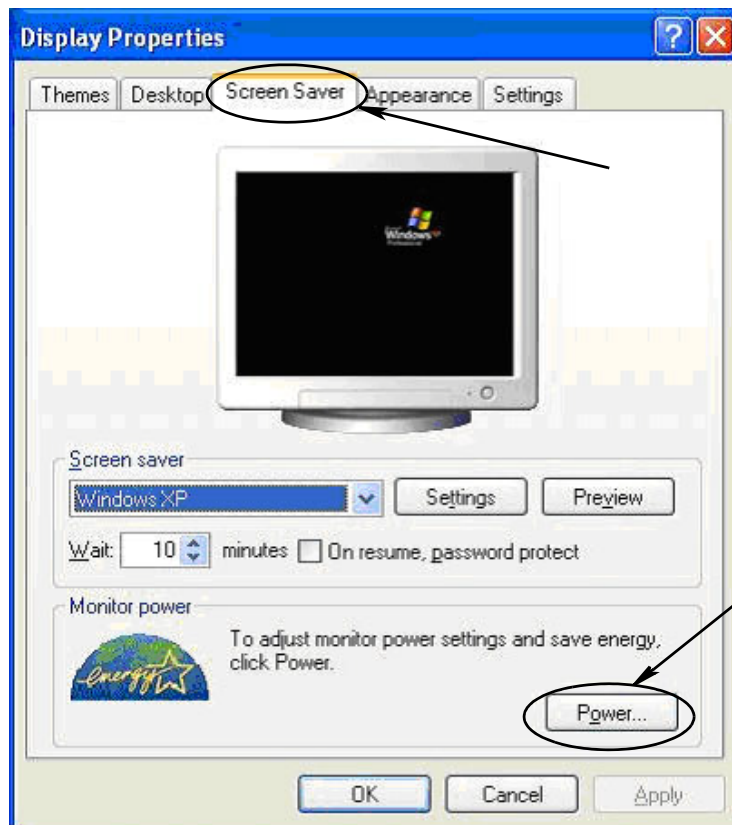

FIG. 44
2. The properties window displays. Choose the Screen Saver tab. In the Monitor Power portion of the screen, select the Power button (FIG. 44).